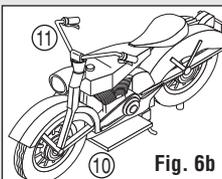

Fig. 6b
- Glue Handlebars ⑪ to Motorcycle Body ⑩ (Fig. 6b).